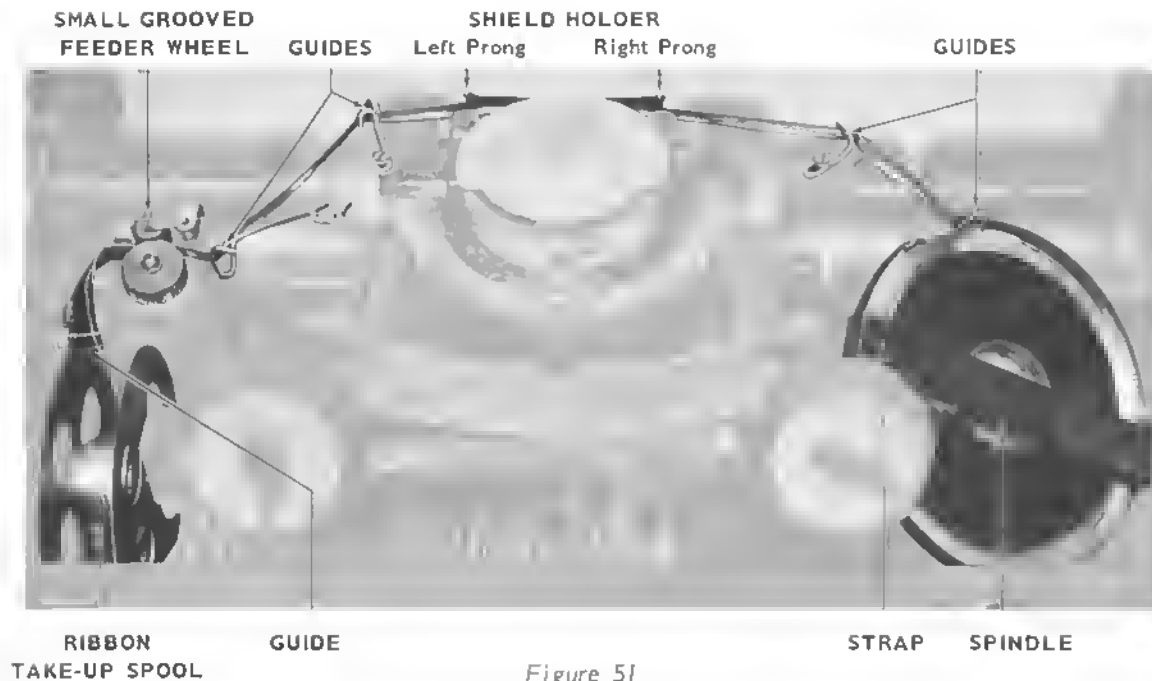

Figure 51
2. Place ribbon on spindle as shown in Figure 51. Note direction of ribbon feed from spool.